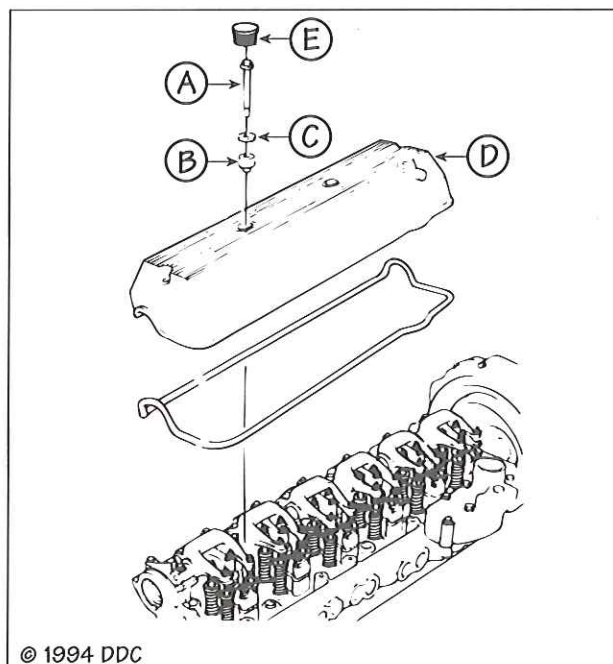

FIG. 37
1. Install the four retaining bolts (A), with isolators (B) and washers (C), into their recesses in the one-piece rocker cover (D) (see Fig. 37).
3. Press the two protective plugs (E) into the two center holes until they are firmly seated.